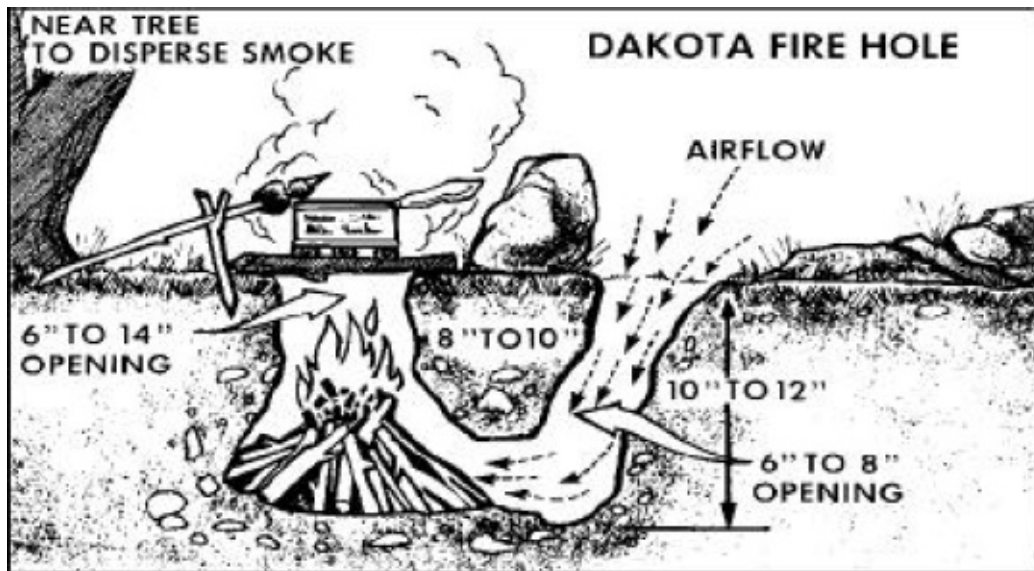

Figure 6-15. Dakota fire hole
- (4) Dakota fire hole (Figure 6-15). Use the Dakota fire hole for high winds or evasion situations.